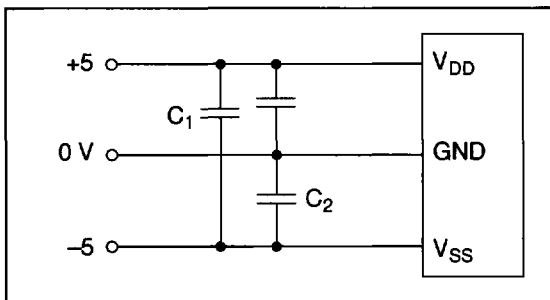

Figure 2 Bypass Capacitors
**Bypass Capacitors:** When bypass capacitors are inserted between different power supplies, the potential may be inverted temporarily depending on the order in which the supplies are turned on (figure 2). The following phenomenon can occur: